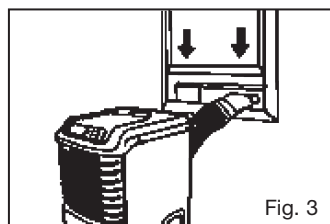
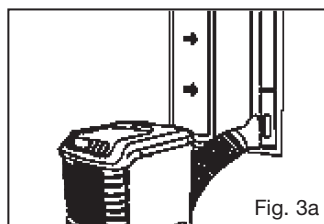

Fig. 3
Fig. 3a
- 2- Install the Flexible Exhaust Hose and the Adjustable Window Slider Kit as depicted in Fig.3 and Fig. 3a.